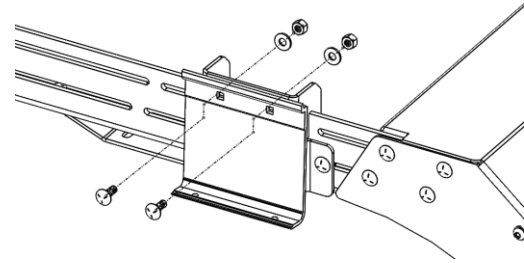

Figure 3: Installation of Manufacturer's Awning Bracket
4. Attach manufacturer's awning bracket to the Aluminess awning bracket (PN 351182) using the provided 1/4"-20 carriage bolts, washer, and nylon-locking nuts provided (Figure 3).
NOTE: Due to the tight spacing between the awning and the manufacturer's awning bracket, the hardware must be installed in the direction shown in Figure 3. The washer and nut should be placed on the backside of the Aluminess bracket.